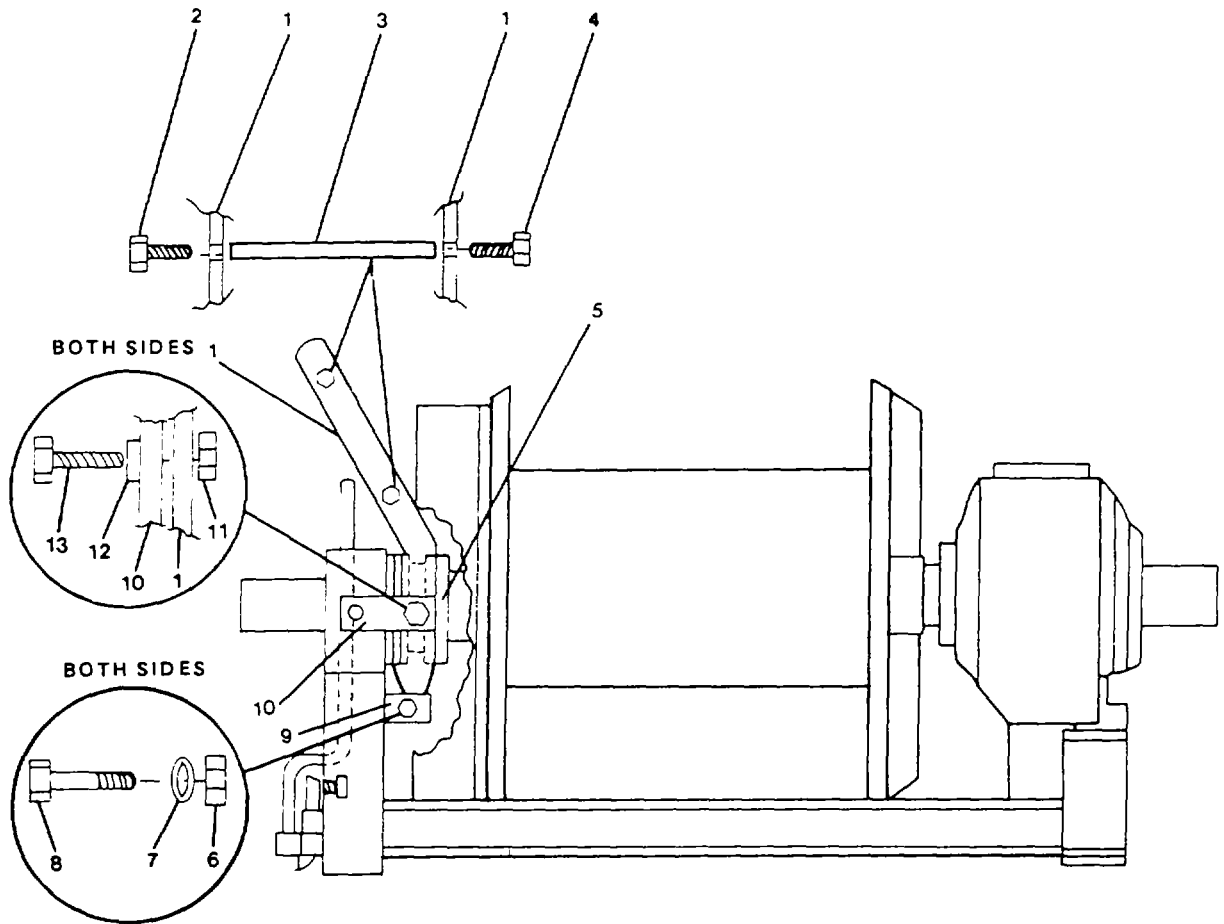
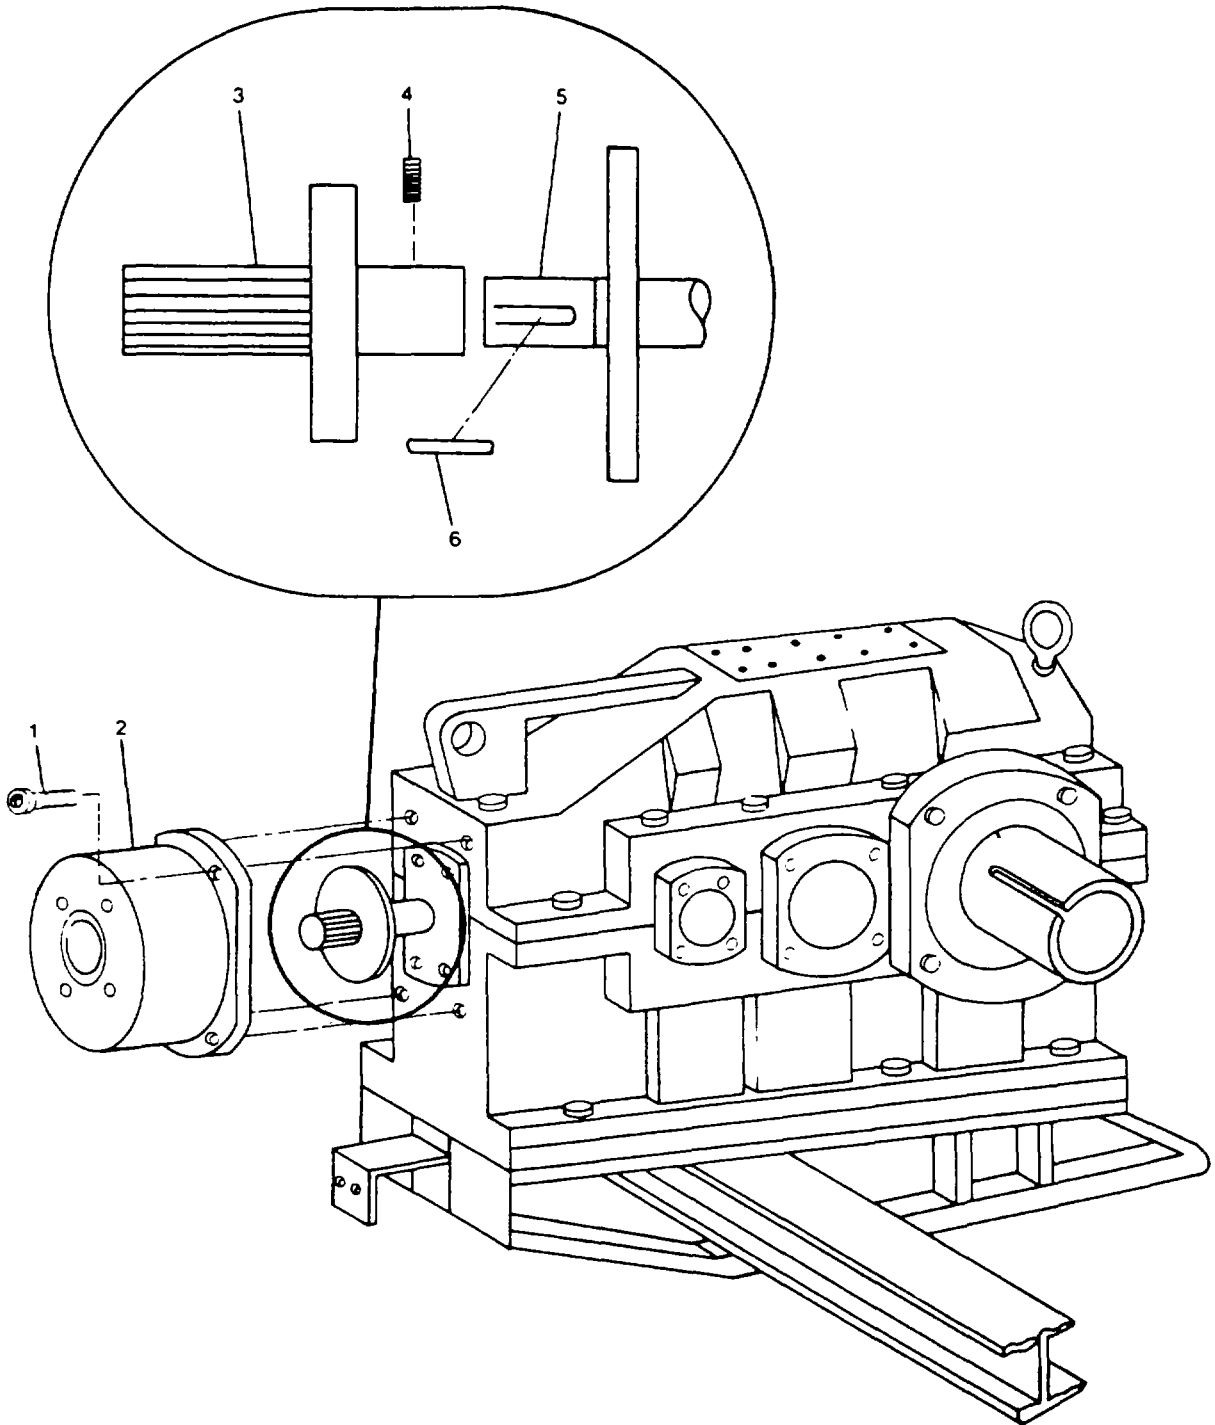
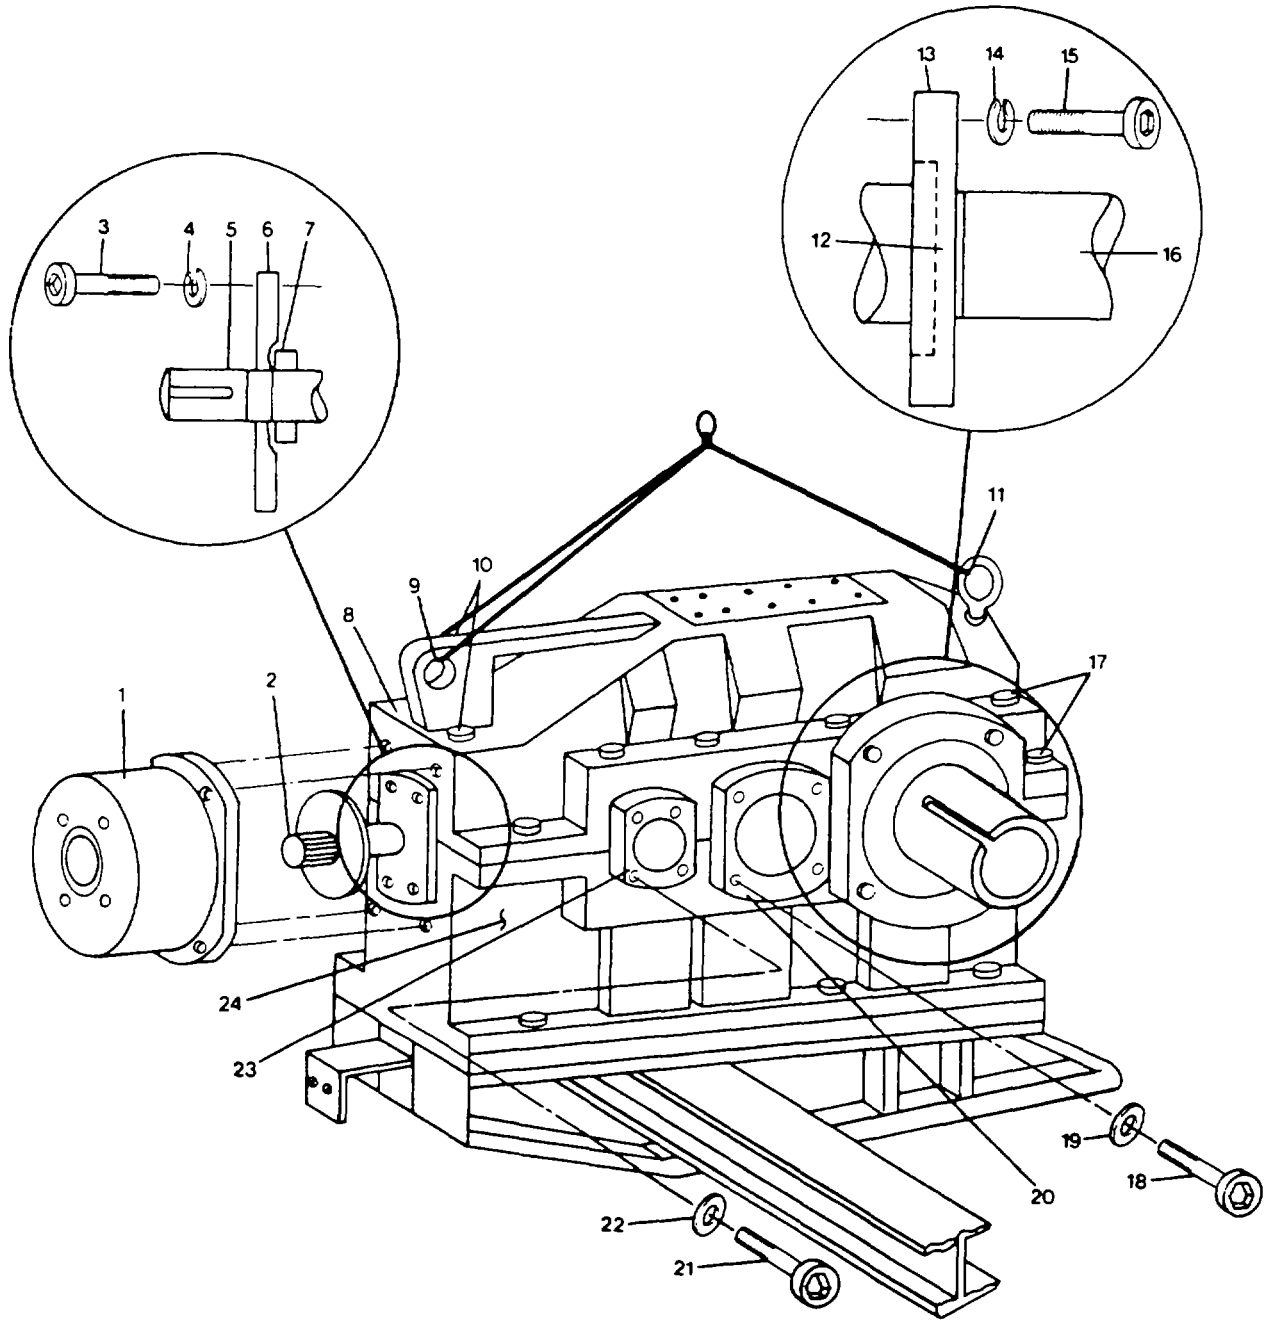

FIGURE 4-15. Mechanical Clutch Assembly.
FIGURE 4-16. *Gear Box Brake Reducer Mount/Coupling*
FIGURE 4-17. Upper Housing Assembly
t. Mechanical Clutch/Shoulder Bolt. (FIGURE 4-15)
(1) On each side of clutch jaw arms (1) remove two hexagon machine bolts (2, 4) securing clutch handles (3) between clutch jaw arms (1).
(2) Remove clutch handles.
(3) Remove hexagon head shoulder bolt (8), lockwasher (7), and plain hexagon nut (6) securing clutch jaw arms (1) between bracket (9).
(4) Disengage clutch jaw arms (1) from sliding jaw clutch (5).
(5) On each side of clutch jaw arms (1) remove hexagon head machine bolts (13), flat washers (12), and head self-locking nuts (11).
(6) On right side of clutch jaw arm (1) remove clutch lockout arm (10).
u. Brake Reducer Mount. (FIGURE 4-16)
(1) Remove hydraulic motor assembly, paragraph 2-15.
(2) Remove failsafe brake assembly, paragraph 2-16.
(3) Remove four socket head capscrews (1) securing brake reducer mount (2) to gearbox assembly.
(4) Separate and remove brake reducer mount (2).
v. Brake Reducer Coupling. (FIGURE 4-16)
(1) Remove brake reducer mount, step u., above.
(2) Loosen set screw (4) and withdraw brake reducer coupling (3) from high speed shaft (5).
(3) Retain machine key (6).
w. Upper Housing Assembly. (FIGURE 4-17)
(1) Attach lifting device and sling to cast lug (9) and eye bolt (11) on gear box upper housing.
z. Bearing Retainer/Oil Seal. (FIGURE 4-17)CAUTION